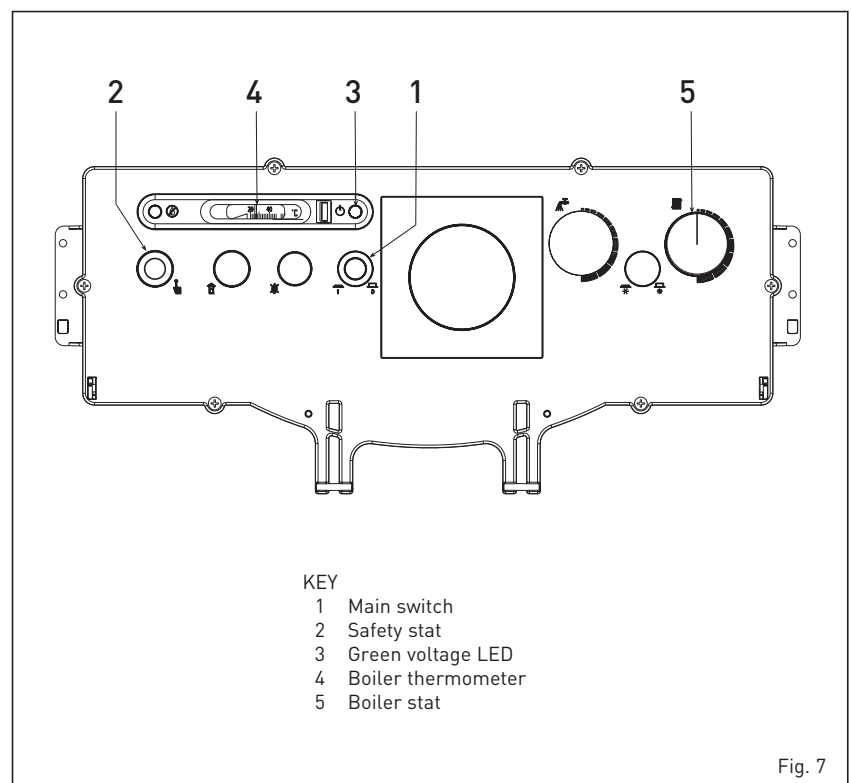

Fig. 7
3.2.1 Lighting the boiler (fig. 7)
- turn the boiler stat knob (5) to a temperature no lower than 60°C. The set temperature value can be checked on the thermometer (4).
- set the temperature of the hot-water service by pressing the thermostat of the boiler unit (6). The set temperature value can be checked on the thermometer (7).
3.2.2 Safety stat (fig. 7)
3.2.4 Turnig OFF boiler (fig. 7)